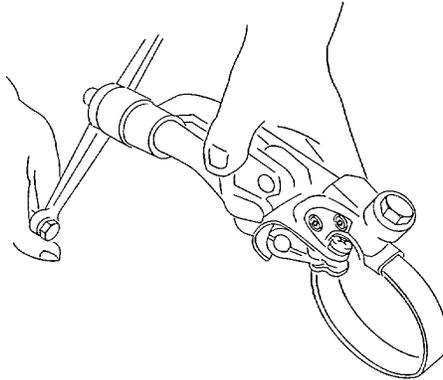

Figure 5-2. Band Clamp Tool Setup
- (9) Operate wrench clockwise until band is sheared.
- (10) Install remaining clamps.
- (11) Install gaskets (7) into coupling (3) and cap (2). (See Fig 5-2.)
- (12) Attach cap (2) and plug (1) with key ring (5).
- (13) Place plug (1) and cap (2) in position and close cam arms.